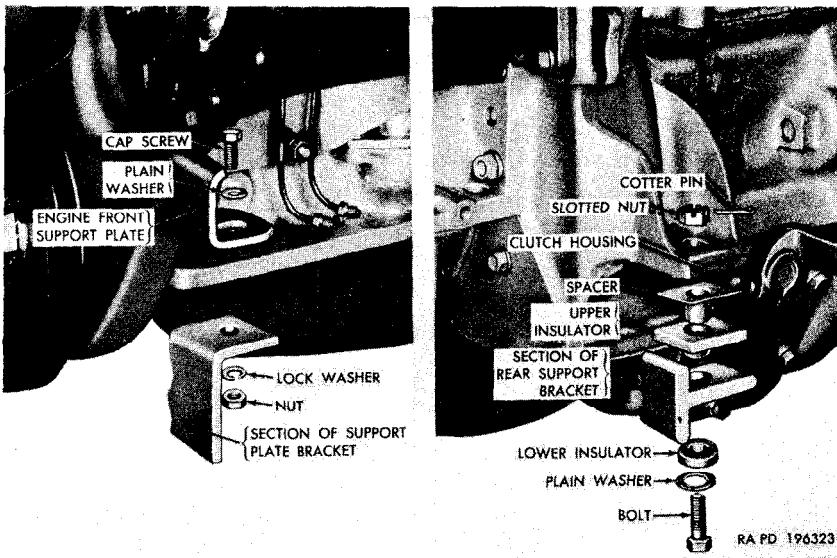

Figure 90. Engine mounting parts—exploded view.
- (1) Each engine is supplied with an engine eyebolt. Place hook of chain in eyebolt and raise the engine enough to place a small amount of strain on the chain.
- (2) At this point, check to be sure that all disconnect operations have been completed. Raise the power plant slowly, using a number of short lifts, until radiator, oil pan, and transmission are clear of crossmember. Check again to see that all lines and accessories are clear as power plant is being removed upward and forward.
- (3) Remove the upper insulator and spacer from each of the engine rear support brackets (fig. 90). Discard the insulator.
- (4) Remove and discard the upper exhaust pipe to lower exhaust pipe gasket.
- (1) Install a new upper exhaust pipe to lower exhaust pipe gasket on the lower exhaust pipe flange.
- (2) Assemble a new upper insulator on each spacer (fig. 90). Install the assembled parts on each engine rear support bracket.
- (3) Position the correct number of $\frac{1}{16}$ -inch ID, $1\frac{3}{8}$ OD-inch, 0.109-inch thick plain washers on the radiator support bracket. Refer to paragraph j(2) above.
- (4) Make certain the generator to regulator cable and the carburetor and shutoff valve controls are properly located to prevent interference with engine installation.
- (1) Remove the drifts from the engine and support brackets. Install a $\frac{9}{16}$ -inch ID, $1\frac{7}{8}$ -inch OD, 0.109-inch thick plain washer on the engine rear support bolt, followed by a new lower insulator (fig. 90). Install the engine rear support bolt from the under side of the rear support bracket and install the $\frac{1}{2}$ -inch plain washer and $\frac{1}{2}$ -20NF slotted nut (fig. 90). Tighten the nut enough to hold the parts.
- (2) Install a $\frac{1}{2}$ -inch plain washer on the $\frac{1}{2}$ -20NF x $1\frac{1}{4}$ cap screw. Install the cap screw through the front support plate and front support plate bracket. Install the $\frac{1}{2}$ -inch lock-washer and $\frac{1}{2}$ -20NF nut (fig. 90). Tighten the nut enough to hold the parts.
- (3) Connect the upper exhaust pipe (P) to the lower exhaust pipe by engaging the two eyebolts. Do not tighten the eyebolt nuts at this time.
- (4) On engines equipped with a priming system, connect the priming system line (R) to the tee-type nozzle (Q) in the intake manifold rear port.
- (5) Connect the flexible line from the fuel pump to the fuel line shutoff cock (H) and open the shutoff cock.
- (6) Attach the throttle return spring extension (M) to the cowl.
- (7) Install the windshield wiper hose (A) on the fuel pump vacuum line (S).
- (8) Connect the crankcase ventilation shutoff valve controls (B). Adjust the controls (par. 118e).
- (9) Connect the choke control (D) and throttle control (T). Adjust the controls (par. 134).